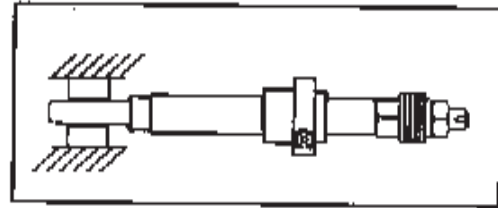

Fig. 4
- 1 Secure the piston rod pack on the bench, brace the piston rod head (Fig. 4).